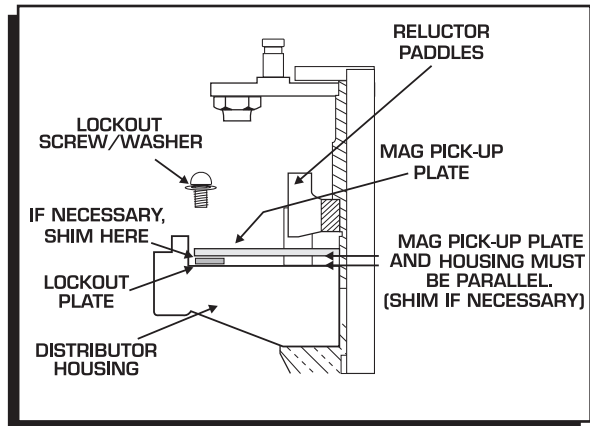

Figure 12 Checking Installation of the Lockout Plate.
- a. Remove the two Allen head screws that hold the advance canister (Figure 12).
- f. It is important to make sure the pickup plate is parallel with the housing of the distributor (Figure 12). If it is cocked or slanted, the paddles of the reluctor may contact the pickup.